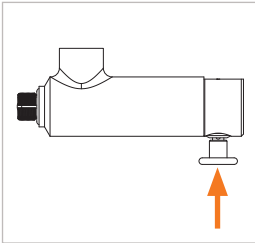

Figure 7
- ▶ Press the valve button (Pos. 4) (*Figure 7*). The clamping jaws will close together.